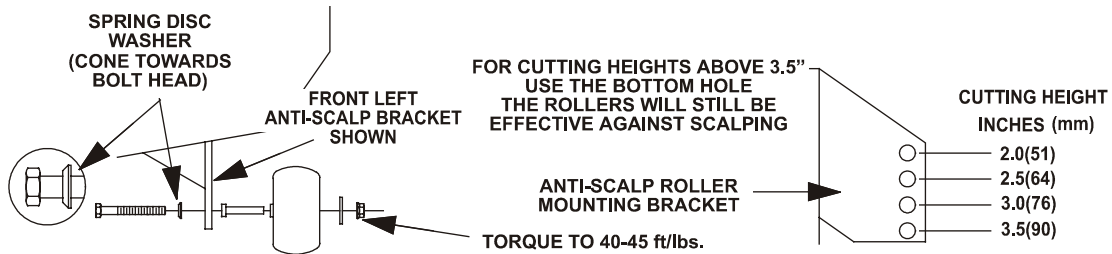

FIG. 6
- g) Adjust anti-scalp rollers for Normal Operating Conditions. Stop engine and remove key. Place rollers in one of the positions shown in Fig. 6. Rollers will maintain 3/4 in. (19 mm) clearance to the ground to minimize gouging and roller wear or damage. **For Maximum Deck Flotation**, place rollers one hole position lower. Rollers should maintain 1/4 in. (6.4 mm) minimum clearance to ground. **Do Not** adjust rollers to support the deck. Be sure *bolt is tightened properly* or loss of anti-scalp roller may result.